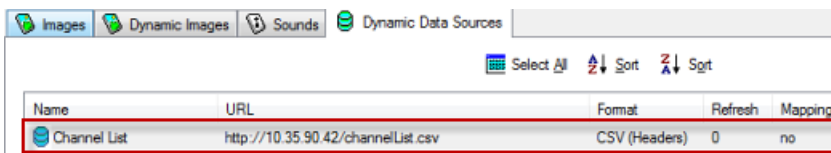

FIG. 141 Resource Manager - Dynamic Data Sources tab indicating "channelList.csv" as the data source
9. Click **OK** to save changes and close this dialog. The new data source is indicated in the Resource Manager - Dynamic Data Sources tab (FIG. 141):